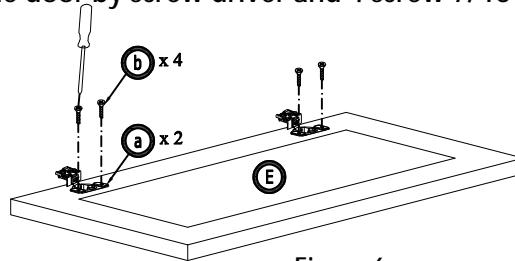

Figure 6
6. Assemble 2 hinges into one door by screw driver and 4 screw 7/15" (Figure 6)